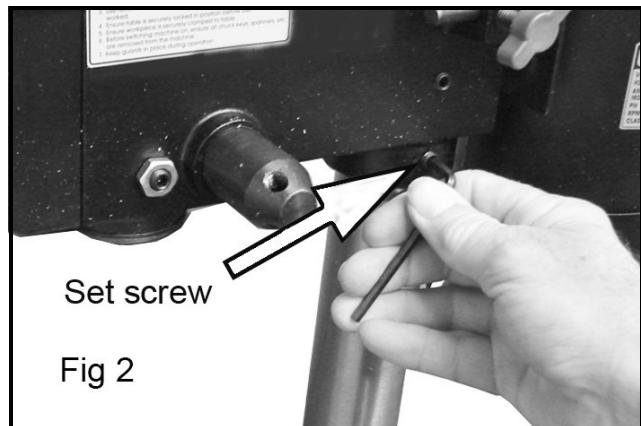

Fig 2
2. Align the head with the base, and firmly secure it to the column with the set screws as shown in Fig 2. Tighten with the hex key supplied.